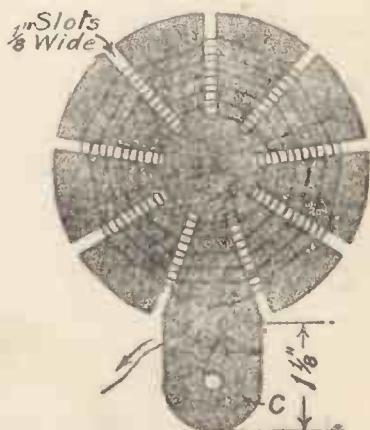

Fig. 2.—How the Basket Coils are made.
**Tuning Coils.**—The tuning inductance consists of two basket coils, the winding of which is joined in series to form a variometer. From a piece of stiff cardboard, about  $\frac{1}{16}$  in. thick, cut out a disc  $3\frac{1}{4}$  in. in diameter, and another piece the same diameter, but with a projecting lug C, as shown in Fig. 2. Draw a circle 1 in. in diameter in the centre of each disc, and then mark out the nine slots in each former, and cut them with the aid of a sharp penknife and a ruler. Wind each cardboard former with sixteen turns of No. 26 gauge D.C.C. copper wire, and leave about 4 in. of free wire at the starting and finishing ends for connecting-up purposes. Mark out the position of the